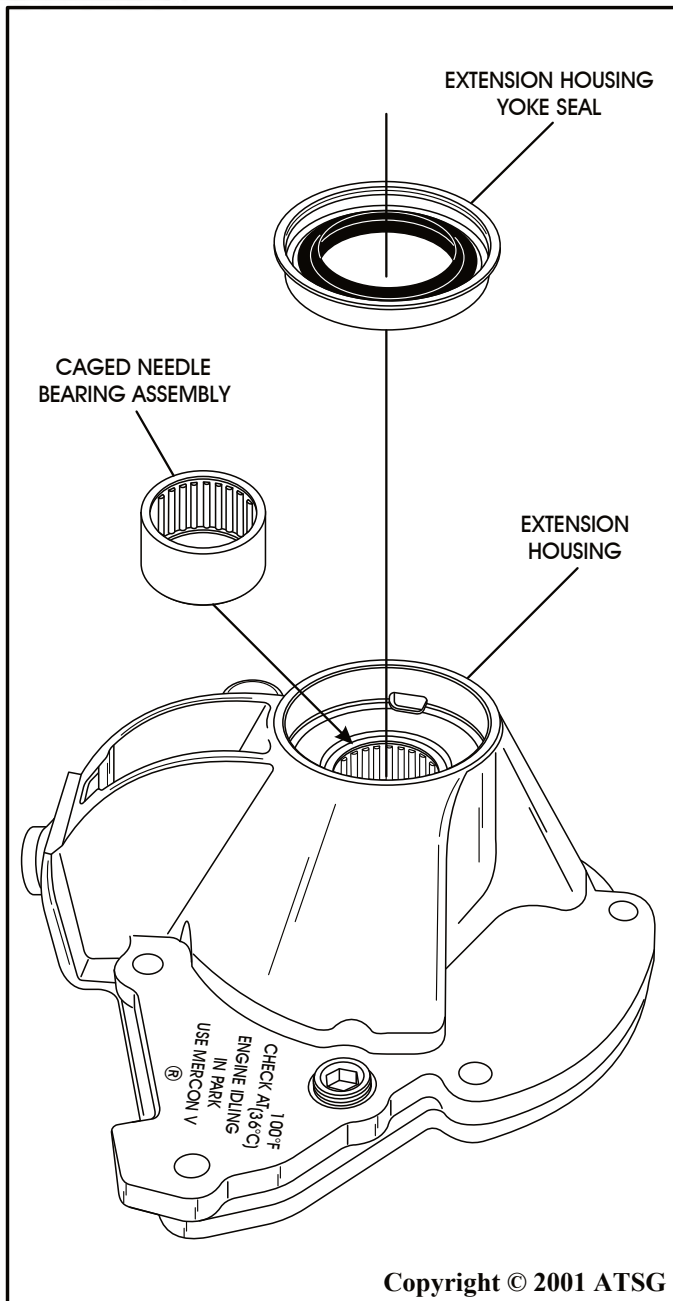

Figure 134
2. Replace caged needle bearing as necessary, using the appropriate puller and installer. Refer to Figure 134 as a guide.
3. Install a new extension housing yoke seal, as shown in Figure 134, using the appropriate seal driver.